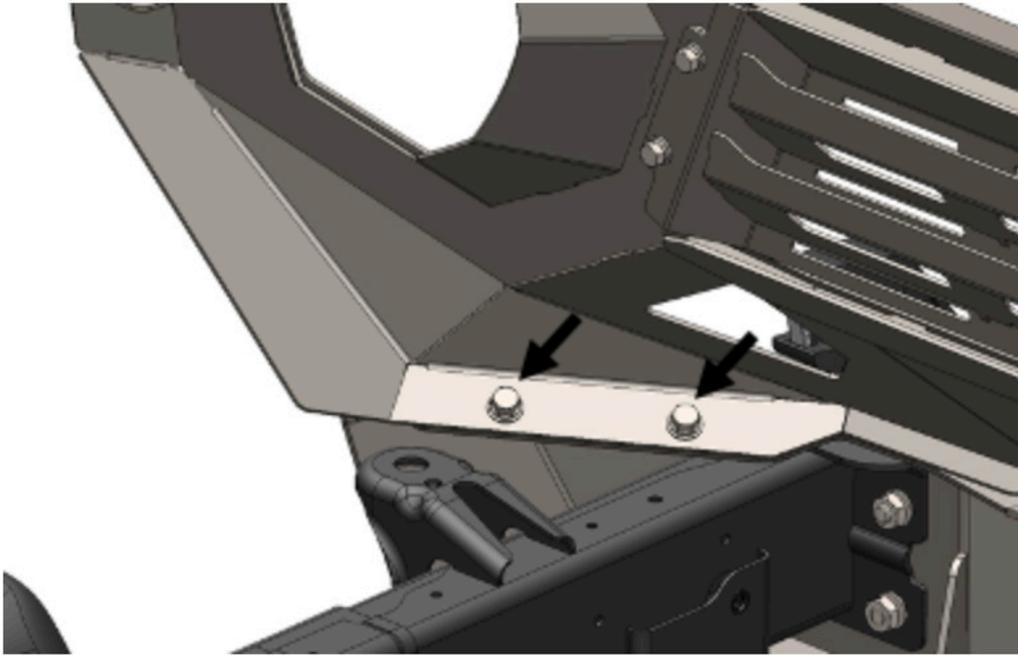

Figure 7
8. Place the grille assembly on the winch mount bumper. Use four (4) 3/8" hex head bolts and washers to fasten the lower section of the grille to the bumper. Figure 7.